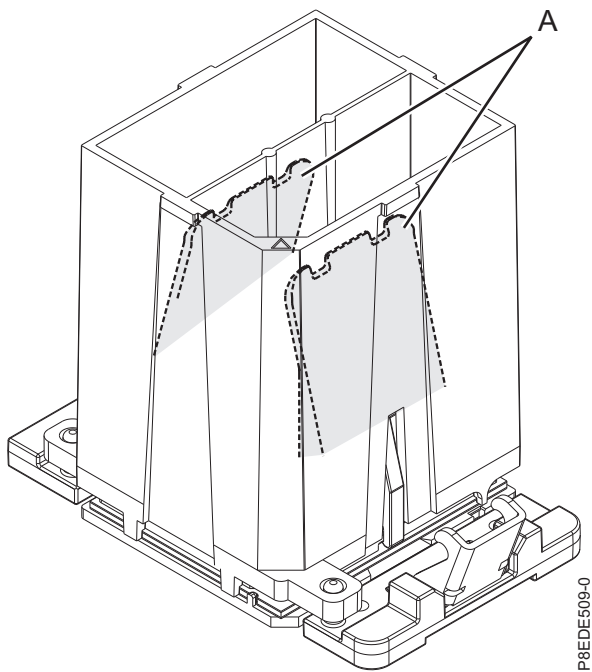

Figure 192. Removing the system processor module tool
- c. After the tool and system processor module holes and guide pins are properly aligned, squeeze and hold the two blue release tabs (A) together until a firm stop is reached, as shown in Figure 192 on page 168. Then, lift the tool off the system processor module.